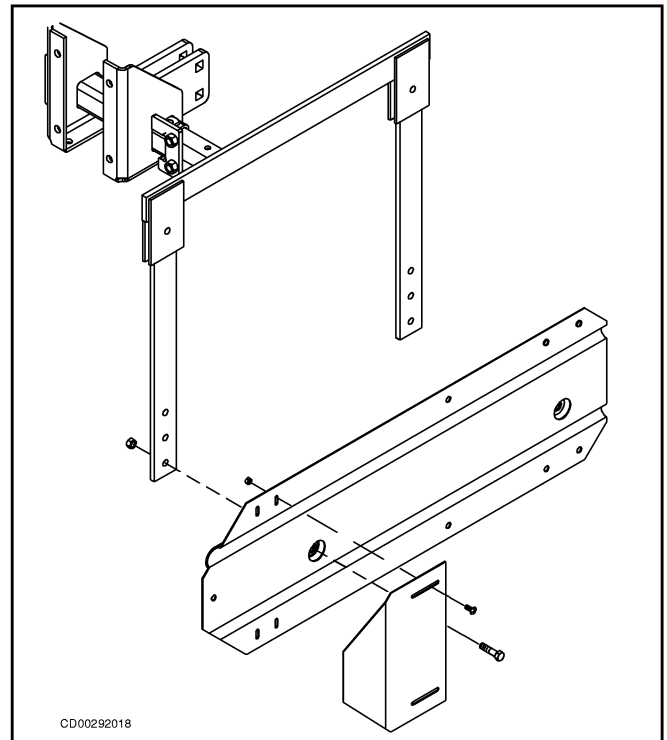

Figure 43 Fastening End Shields
3. Fasten end shields as shown in Figure 43.